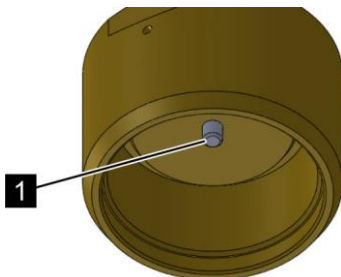

Fig. 172: Release pin
1. ➤ Check whether the release pin (Fig. 172/1) of the electric release device is deactivated.